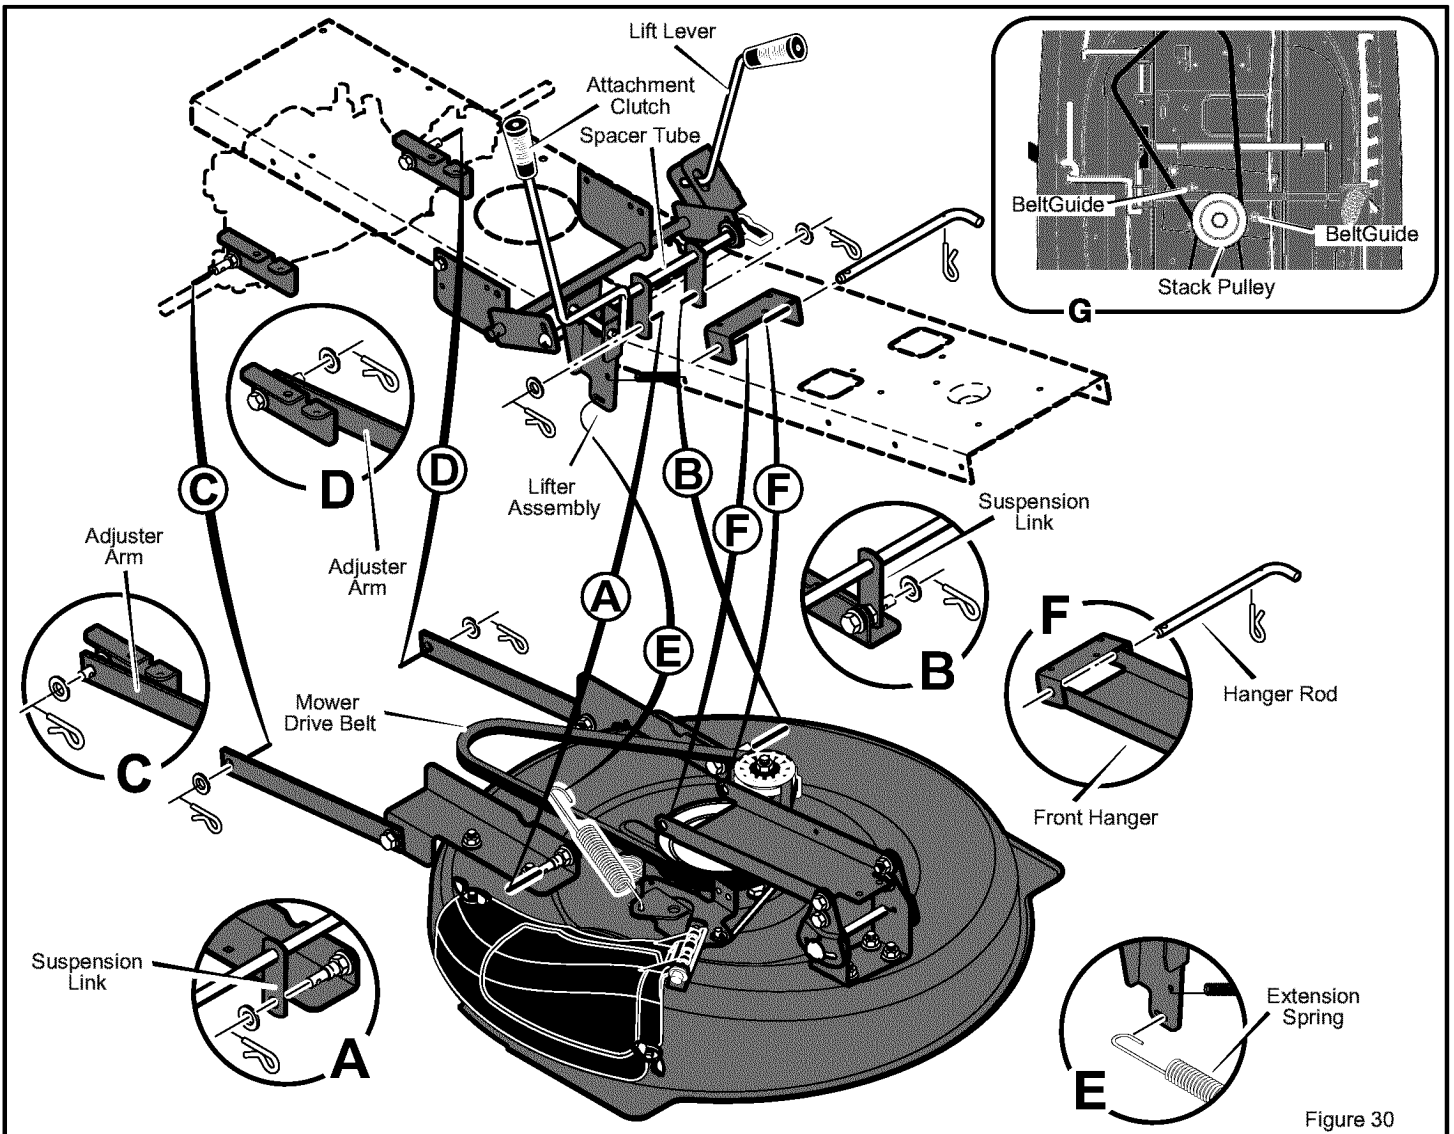

Figure 30
3. Remove the hair pins and the washers from the **rear suspension arms** (Figure 30). See illustrations "C" and "D".